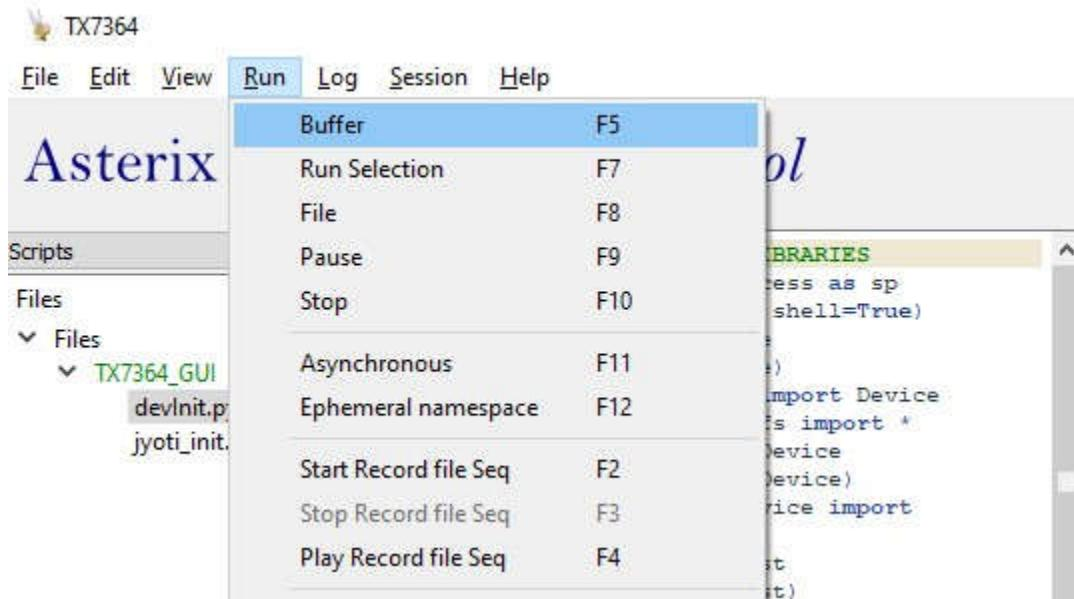
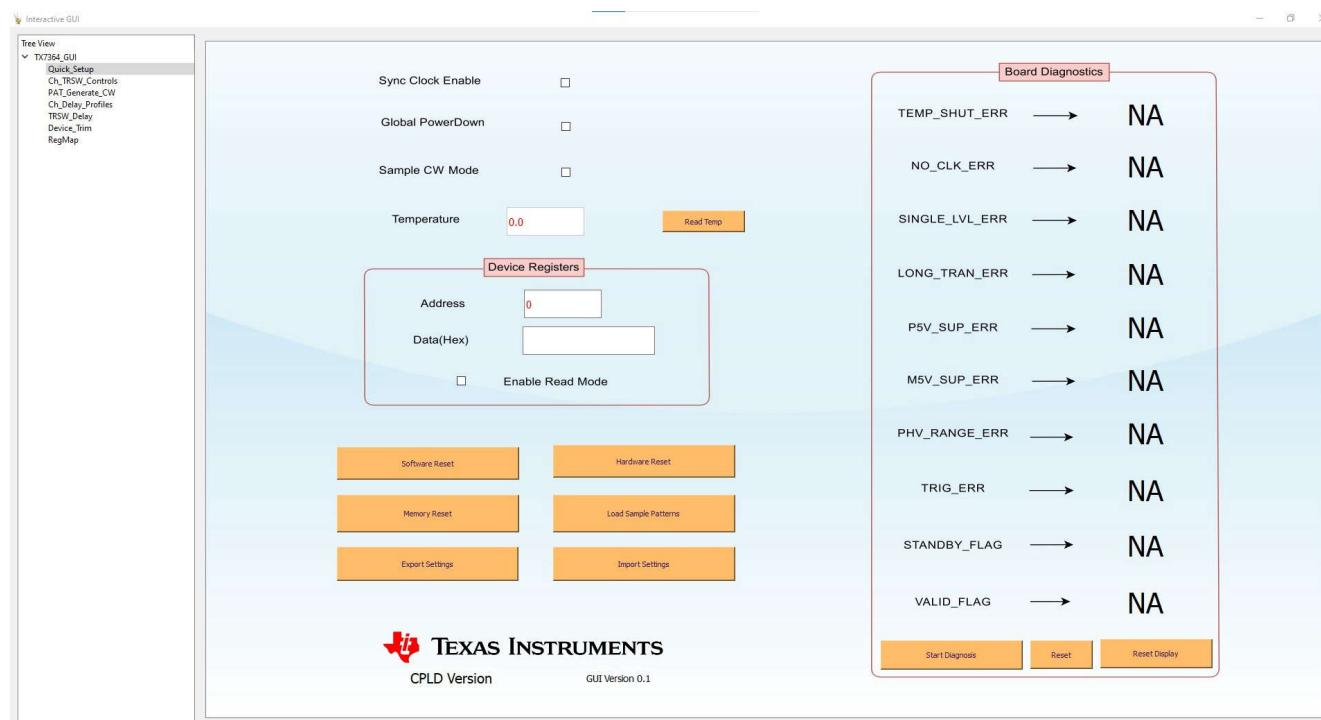

Figure 4-2. Latte GUI Window
Figure 4-3. TX7364 Interactive GUI
4. Click the run -> buffer option as shown in Figure 4-2. Interactive GUI opens as shown in Figure 4-3.